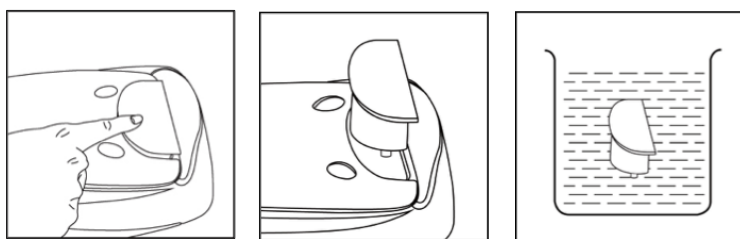

Figure 1
1. Immerse the new anti-scale cartridge into water for 5 minutes with one hole above the water and one hole submerged according to (Figure 1).